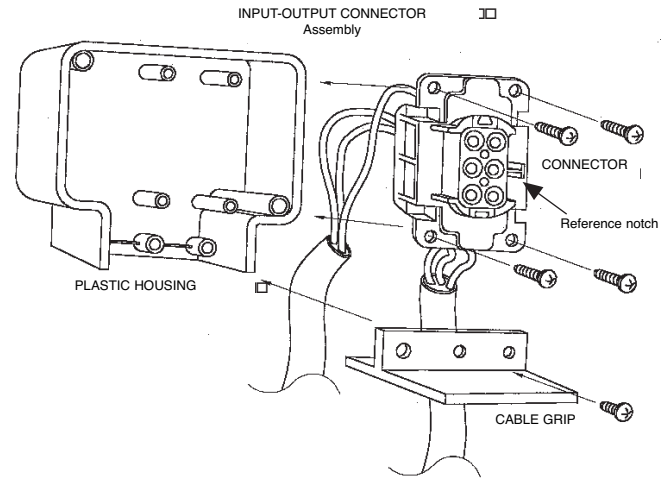

Fig. 4 Connection terminals housing
1. Wire up the Input-Output connector supplied as shown in figure 4, using insulated cable with wires whose section is at least 2.5 mm².
2. Insert the connector into the plastic housing and secure it using the screws supplied. Secure the wires to the housing using the cable grip (see fig. 4).